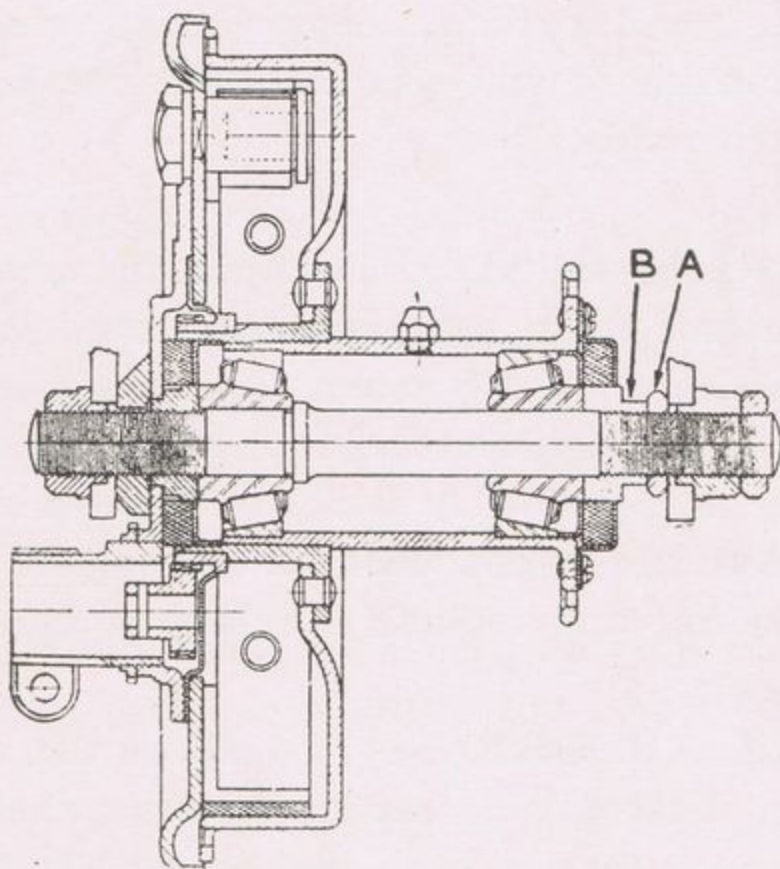

Fig. 11
**HUB ADJUSTMENT—Ball and Roller (Fig. 11).** The hubs should be tested frequently for side play and adjusted if necessary. Remove the wheel and then slacken off the locknut *A* and turn the bearing nut *B* gently. When the play is all taken up unscrew the nut *B* about one-third of a turn, or until play can just be felt when the spindle is rocked